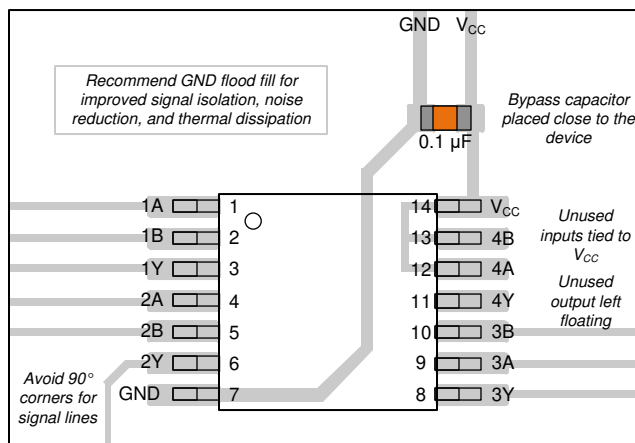

Figure 8-3. Example Layout for the SN74LVC132A-Q1
1. Add a decoupling capacitor from V_{CC} to GND. The capacitor needs to be placed physically close to the device and electrically close to both the V_{CC} and GND pins. An example layout is shown in the Figure 8-3.
The power supply can be any voltage between the minimum and maximum supply voltage rating located in the Recommended Operating Conditions. Each V_{CC} terminal should have a bypass capacitor to prevent power disturbance. A $0.1\mu\text{F}$ capacitor is recommended for this device. It is acceptable to parallel multiple bypass caps to reject different frequencies of noise. The $0.1\mu\text{F}$ and $1\mu\text{F}$ capacitors are commonly used in parallel. The bypass capacitor should be installed as close to the power terminal as possible for best results, as shown in Figure 8-3.